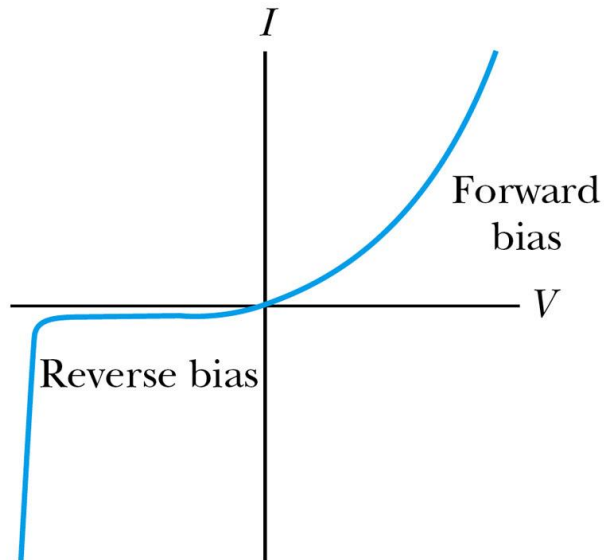

Figure 11.15: A typical I - V curve for a Zener diode.
- The **Zener diode** is made to operate under reverse bias once a sufficiently high voltage has been reached. The I - V curve of a Zener diode is shown in Figure 11.15. Notice that under reverse bias and low voltage the current assumes a low negative value, just as in a normal pn -junction diode. But when a sufficiently large reverse bias voltage is reached, the current increases at a very high rate.